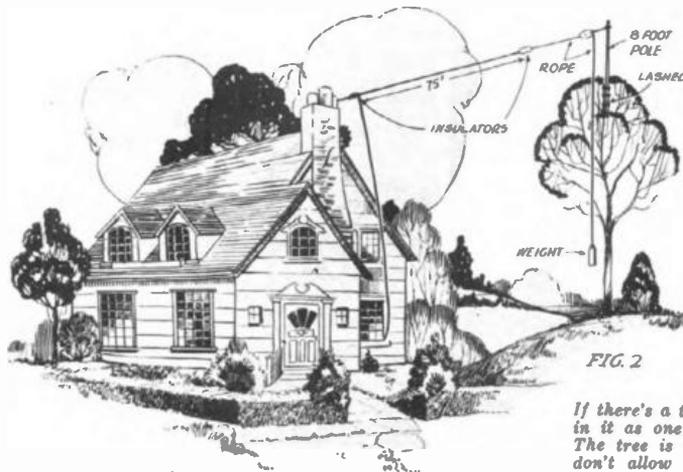

FIG. 2
**Wire No. 11**—From open side of detector rheostat (11A) to open side of amplifier rheostat (11B), and then to open side of battery switch (11C). When bending this wire remember to make allowance for the space which the Counterdon will occupy when it is mounted on the front panel. (See Fig. 2).
Fig. 2 shows an arrangement embodying this idea. This allows only the high frequency oscillations to flow through the coil which otherwise would have to carry both the alternating and D. C. components of the plate current.